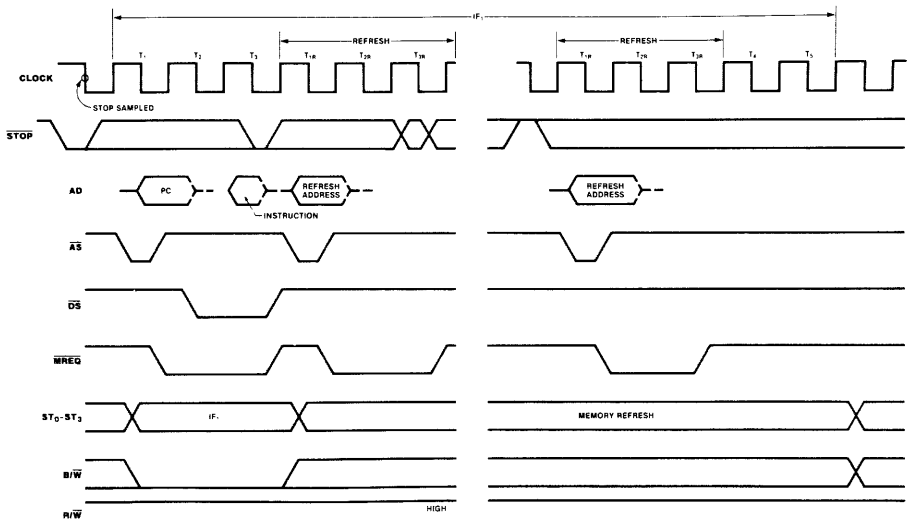

Figure 9-10. Stop Timing
9.6.4 Stop Request. As shown in Figure 9-10, the $\overline{\text{STOP}}$ pin is normally sampled on the falling clock edge immediately preceding an initial instruction fetch cycle. If $\overline{\text{STOP}}$ is found Low, the CPU enters Stop/Refresh state and a stream of memory refresh cycles is inserted after the third clock cycle in the instruction fetch. The ROW field in the Refresh Counter is incremented by two after every refresh cycle.